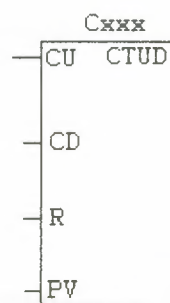

Figure 2.1.1
down. Since they are simulated they are limited in their counting speed. Some manufacturers also include high-speed counters that are hardware based. We can think of these as physically existing. Most times these counters can count up, down or up and down. (Symbol shows Figure 2.1.1). The Count Up/Down (CTUD) box counts up on rising edges of the Count Up (CU) input. It counts down on the rising edges of the Count Down (CD) input. It resets when the Reset (R) input turns on.